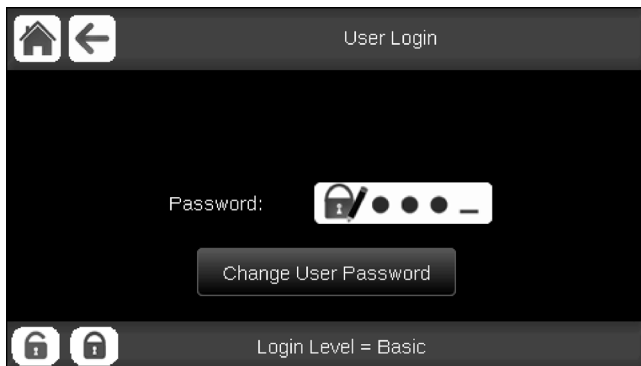

Fig. 8 — User Login Screen
- **User** — The User access level authorizes access to modify the Setpoint Configuration and some Configuration Menu parameters, as well as access to all menus accessible with the Basic mode. See menu structure on page 20. The default password for User level access is 11. To change the User access password, the user must first be logged in to User or higher level and go to **Login Menu** → **User Login** → **Change User Password**, then enter the old password and the new password. Confirm the new password, then press the Save button. After pressing the Save button, a pop-up window will indicate that the user password was changed successfully. Press OK to continue. (See Fig. 8.)